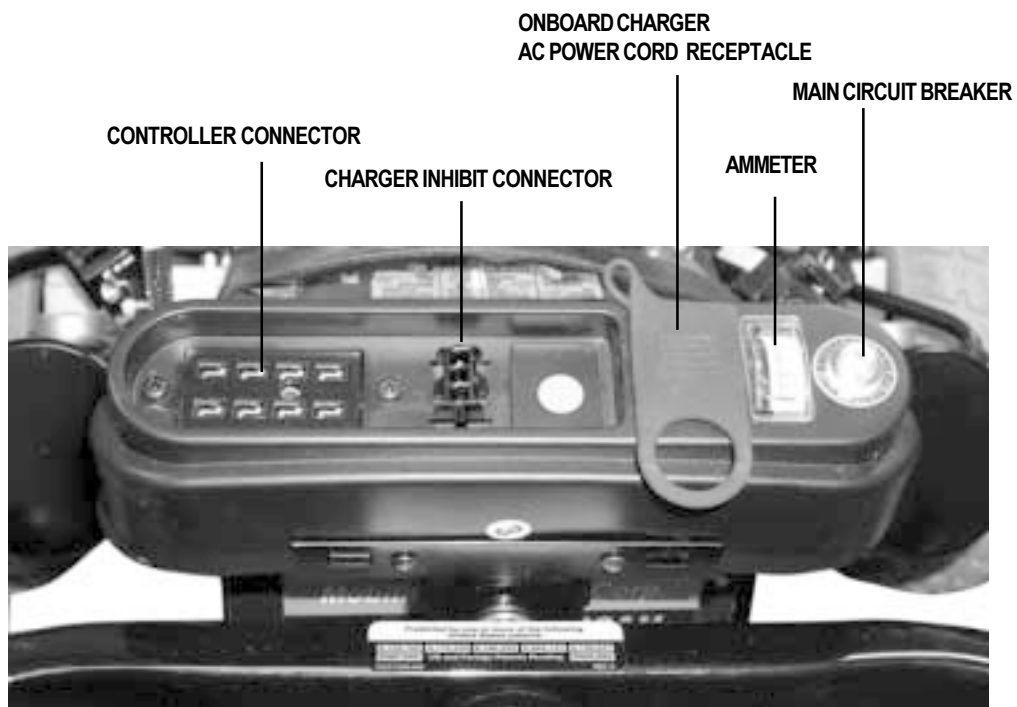

Figure 4. Electronics Tray (Non Power Seat)
The electronics tray is located on the back of the power base. See figure 4. The ammeter, the onboard charger AC power cord receptacle, the main circuit breaker, the controller connector, and the charger inhibit connector are all located on the electronics tray.
1. Unplug the controller and the charger inhibit connectors from the electronics tray. See figure 4.